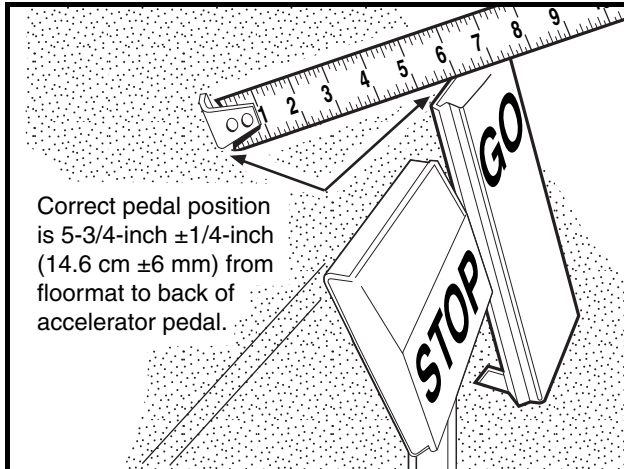
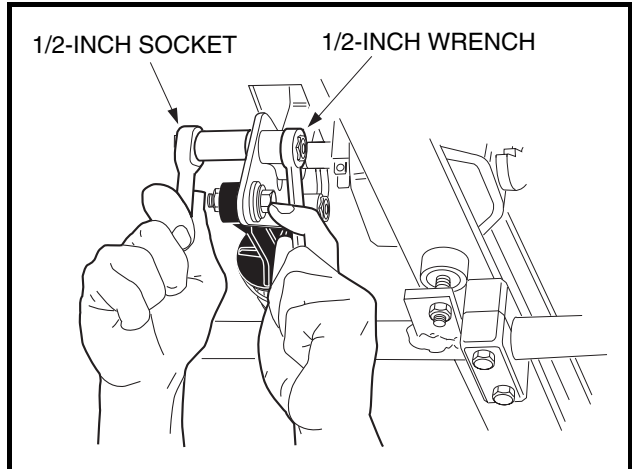
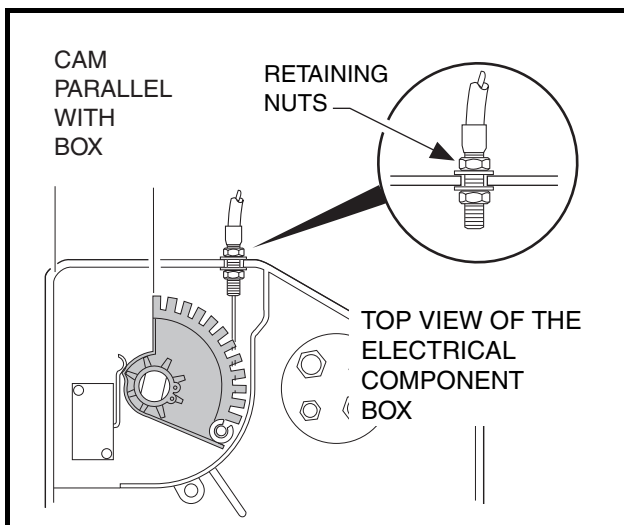
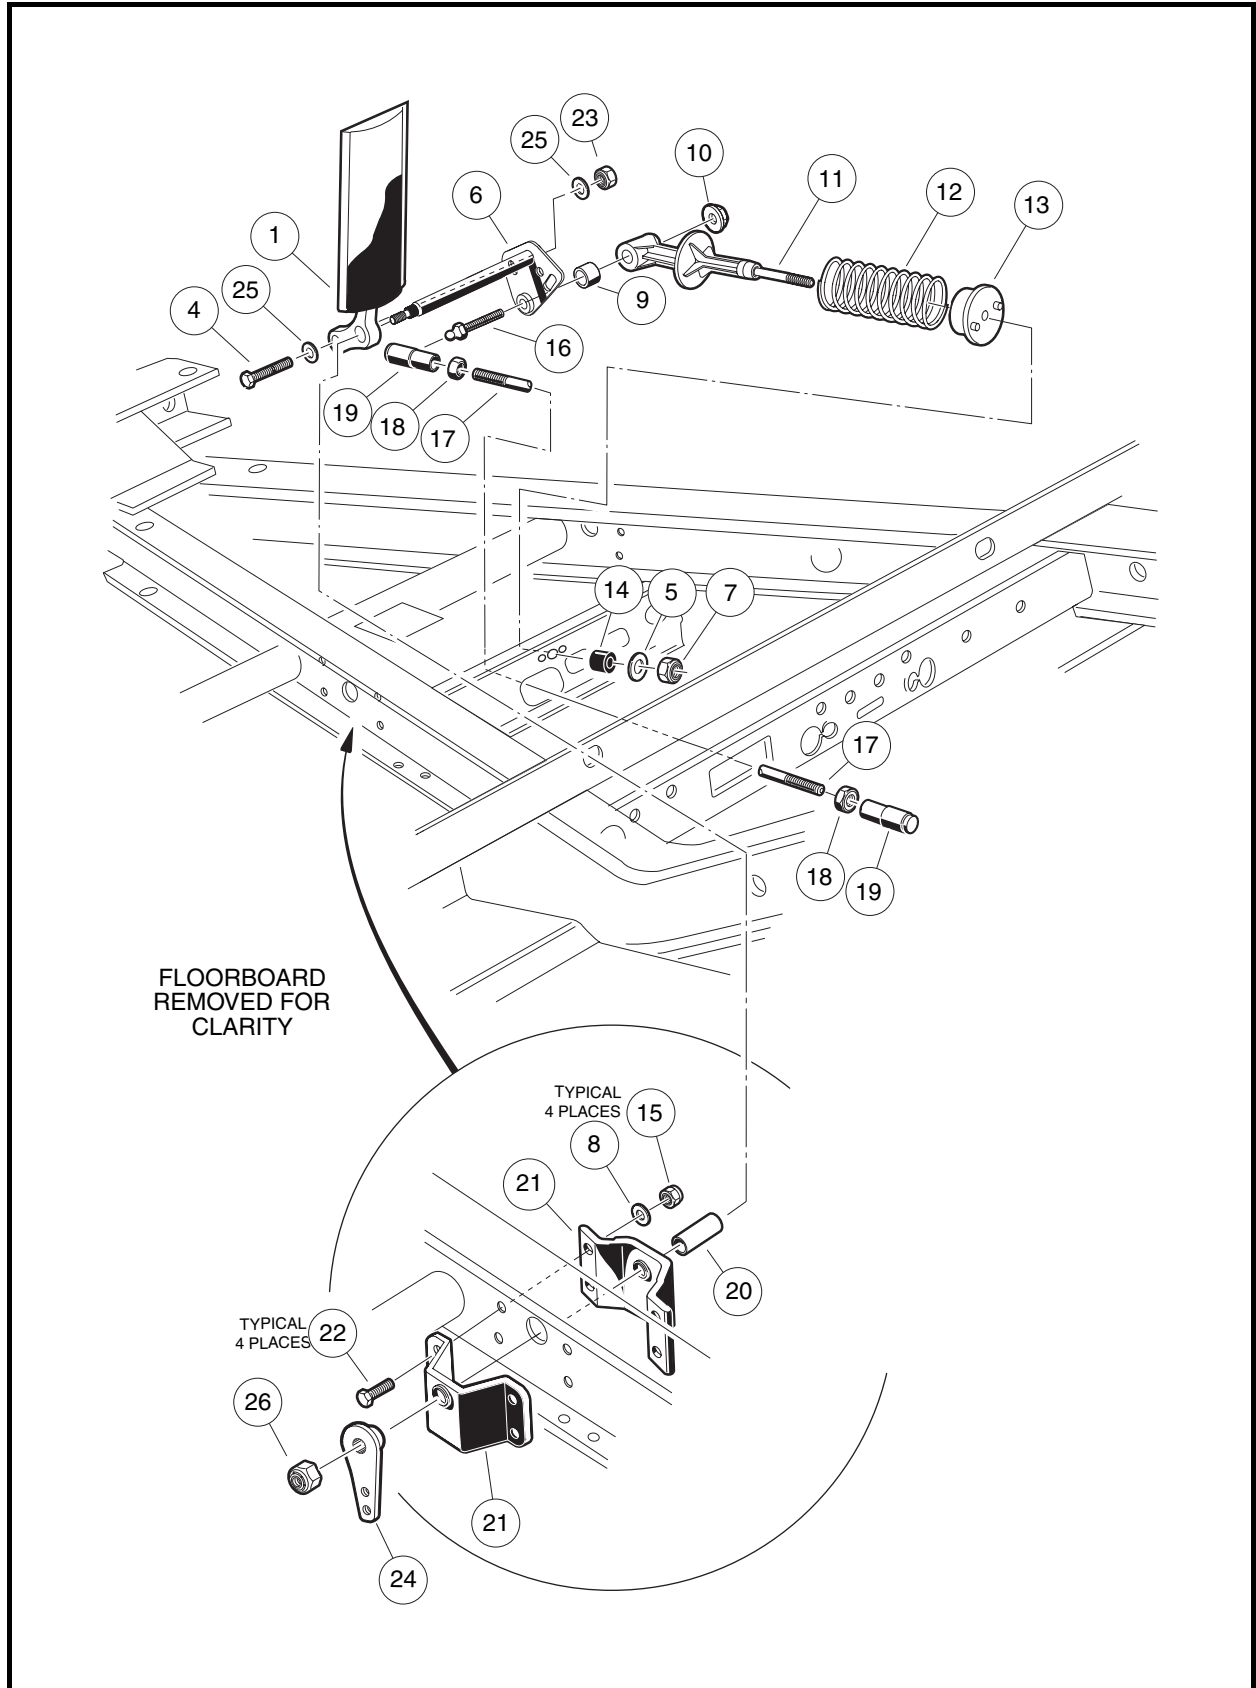

Figure 5-7 Accelerator Pedal Height
Figure 5-8 Accelerator Pedal Adjustment
Figure 5-10 Accelerator Cable and Electrical Box
Figure 5-11 Accelerator Pedal Assembly
4. Use a 9/16-inch socket and 9/16-inch wrench and remove the nut (23), two washers (25), and bolt (4) securing the accelerator pedal (1) to the pivot rod (6) (**Figure 5-11, Page 5-8**).
6. Remove the nut (10) and ball stud (16) from the accelerator pivot rod (6) and spring retainer (11) assembly.
7. Slide the spring retainer (11) off of the accelerator pivot rod boss.
8. Inspect the pivot support bearing (9), inside the spring retainer, for wear and replace if necessary.
9. Remove locknut (26) from the accelerator pivot shaft.
10. Move the brake pedal slightly and then slide the spacer (24) toward end of accelerator pivot rod, releasing the splined fit between the two. Rotate the spacer (24) and remove from the pivot rod (6).
11. Loosen, but do not remove, the four bolts (22) and locknuts (15).
12. Slide the pivot rod (6) from the accelerator pivot rod supports (21), nylon spacer (20), and accelerator (1). Remove both the pivot rod (6) and the accelerator pedal (1).
13. Inspect the accelerator pivot rod support bearings (21) and all parts for wear or damage and replace as necessary (**Figure 5-11, Page 5-8**).
1. If replaced, position the supports (21) on the vehicle frame and loosely install the four bolts (22), washers (8), and locknuts (15) and finger tighten (**Figure 5-11, Page 5-8**).
2. With another person, position the accelerator (1) through the floorboard and slide the accelerator pivot rod (6) through the upper hole in the pedal, through the nylon spacer (20), and through the two pivot rod supports (21).
3. Tighten bolts (22) to 75 in-lb (8.5 N·m).
4. Install spacer (24), aligning the splined parts, and tighten the nylon locknut (26) to 18 ft-lb (24.5 N·m).
5. Insert bolt (4) through a washer (25) and through the lower hole in the pedal, then through the adjacent slotted hole in the pivot rod (6). Attach the remaining washer (25) and nut (23). Finger tighten-nut. **See Accelerator Pedal Adjustment on page 5-5.**
6. Insert pivot support bearing (9) into spring retainer (11) and onto the boss of the pivot rod plate.
7. Install the ball stud bolt (16) through the pivot rod (6) and pivot support bearing (9). Secure these parts with nut (10) and tighten to 50 in-lb (5.5 N·m).
1. Measure the distance from the top of the accelerator pedal to the floorboard. If it is within the range of 5-3/4 inches \pm 1/4-inch (14.6 cm \pm 6 mm) (**Figure 5-7, Page 5-7**), adjusting the accelerator pedal is not necessary. Tighten the nylon locknut (23) to 26 ft-lb (35.3 N·m) (**Figure 5-11, Page 5-8**) and proceed to step 7. If adjustment is necessary, proceed to step 2.
4. Loosen the nut and bolt securing the accelerator pedal to the pivot plate (**Figure 5-8, Page 5-7**).
- 6.1. Adjust the distance from the floormat to the back of the accelerator pedal to be 5-3/4 inches \pm 1/4-inch (14.6 cm \pm 6mm) (**Figure 5-7, Page 5-7**). Tighten nut to 26 ft-lb (35.3 N·m) (**Figure 5-8, Page 5-7**).
- 7.1. Remove the electrical box screw and cover (**Figure 5-10, Page 5-7**). **See preceding WARNING.**
- 7.2. Loosen the jam nuts (18) and disconnect the accelerator rod (17) at the accelerator pedal (**Figure 5-11, Page 5-8**). Adjust the length of the rod so the indicated cam edge is parallel with the edge of the electrical component box (**Figure 5-10, Page 5-7**). **See following CAUTION.**
8. Connect the accelerator rod at the accelerator pedal (**Figure 5-11, Page 5-8**).
9. Before tightening jam nuts on accelerator rod, press pedal and make sure the carburetor throttle actuates when the cam moves approximately 8° to 12° (**Figure 5-10, Page 5-7**). **See following NOTE.**
- 9.1. Hold the ball joint at each end of the accelerator rod (17) with pliers and tighten the accelerator rod jam nuts (18) against each ball joint (**Figure 5-11, Page 5-8**).